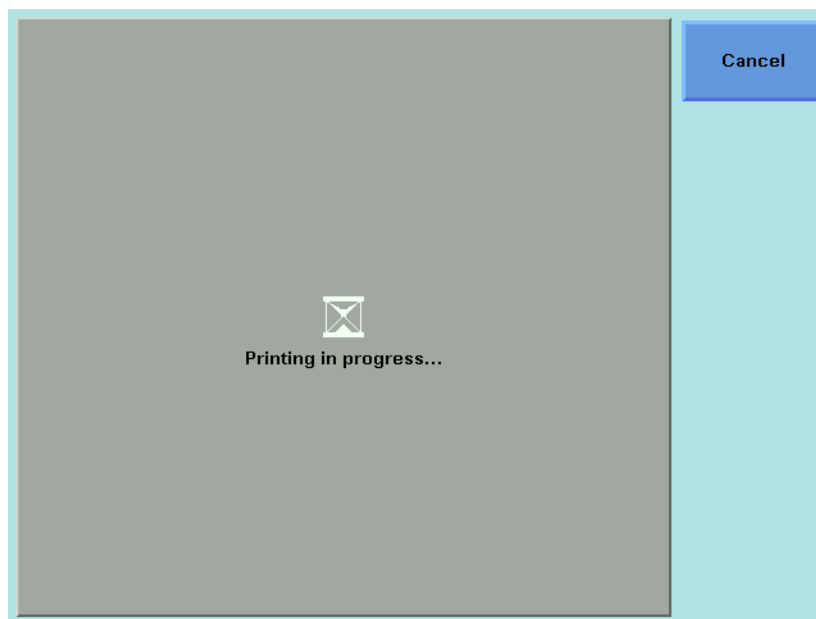

Figure 175 The Printing in Progress Screen
- 5 Press [Menu], move to <Print>, and press *Enter*. The screen, shown in Figure 175 , appears.